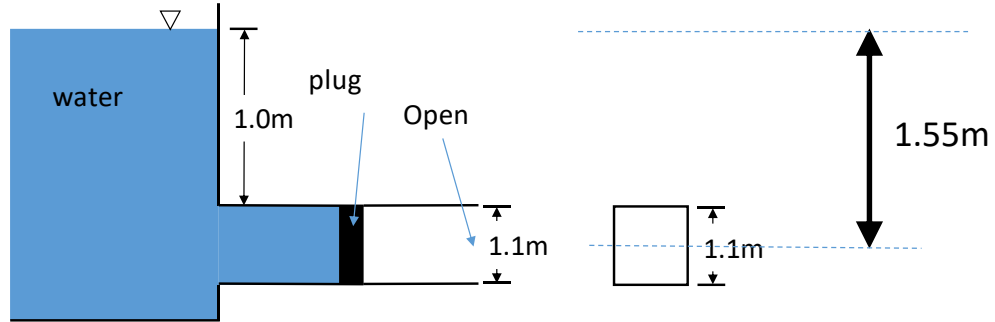

Fig. 2. Problem 3.
3. A large, open tank has water. The tank is connected to a 1.1 m high, rectangular shaped, pipe (Fig. 2). The rectangular shaped plug is used to seal the pipe. Determine the magnitude, direction, and location of the force of the water on the plug.